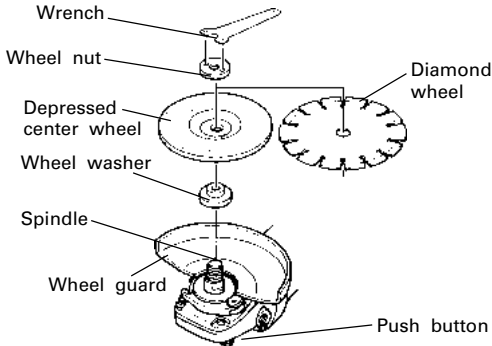

Fig. 4
Confirm that the push button is disengaged by pushing push button two or three times before switching the power tool on (See Fig. 4)
ASSEMBLING AND DISASSEMBLING THE DEPRESSED CENTER WHEEL (Fig. 4)
1. Assembling (Fig. 4)
Tighten the wheel nut by using the supplied wrench as shown in Fig. 4.